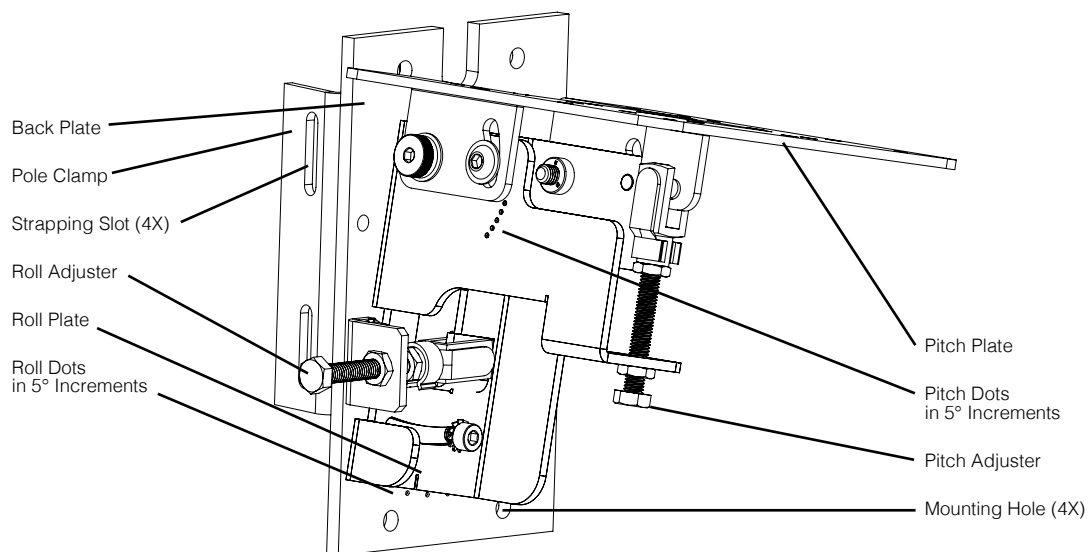
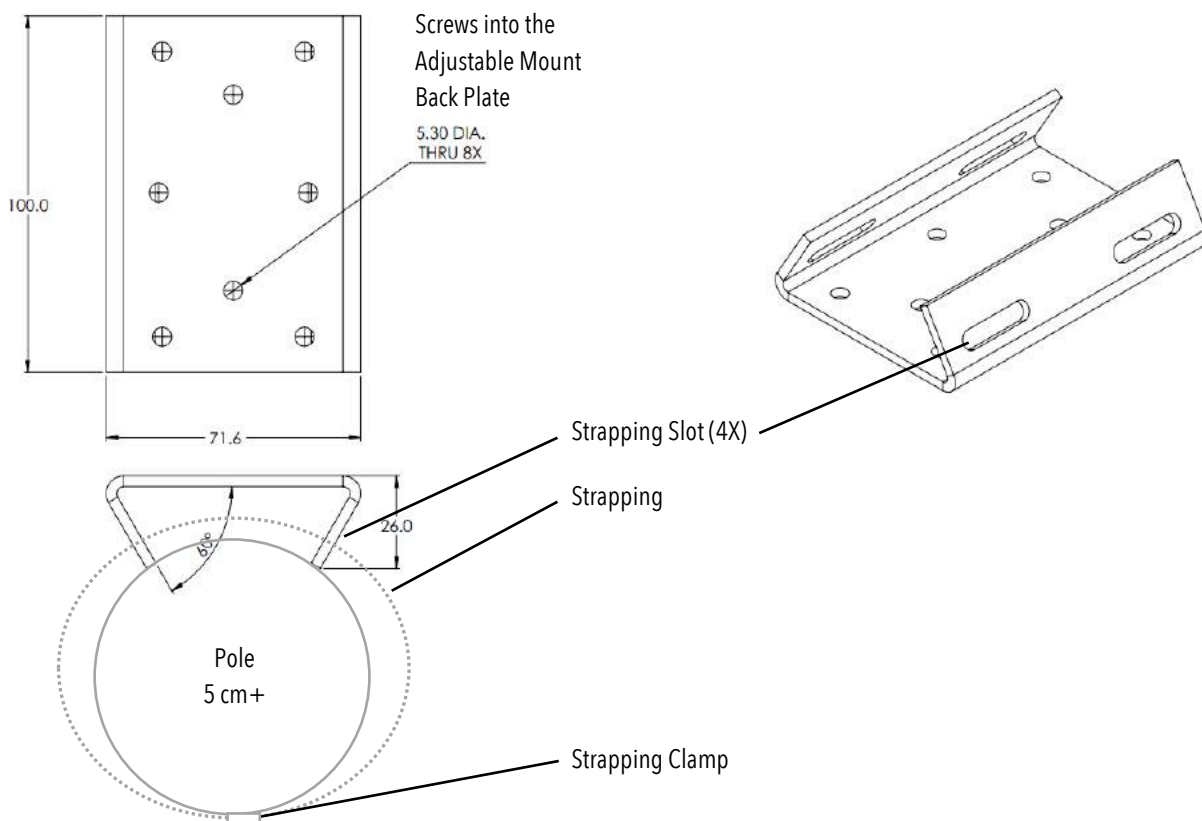
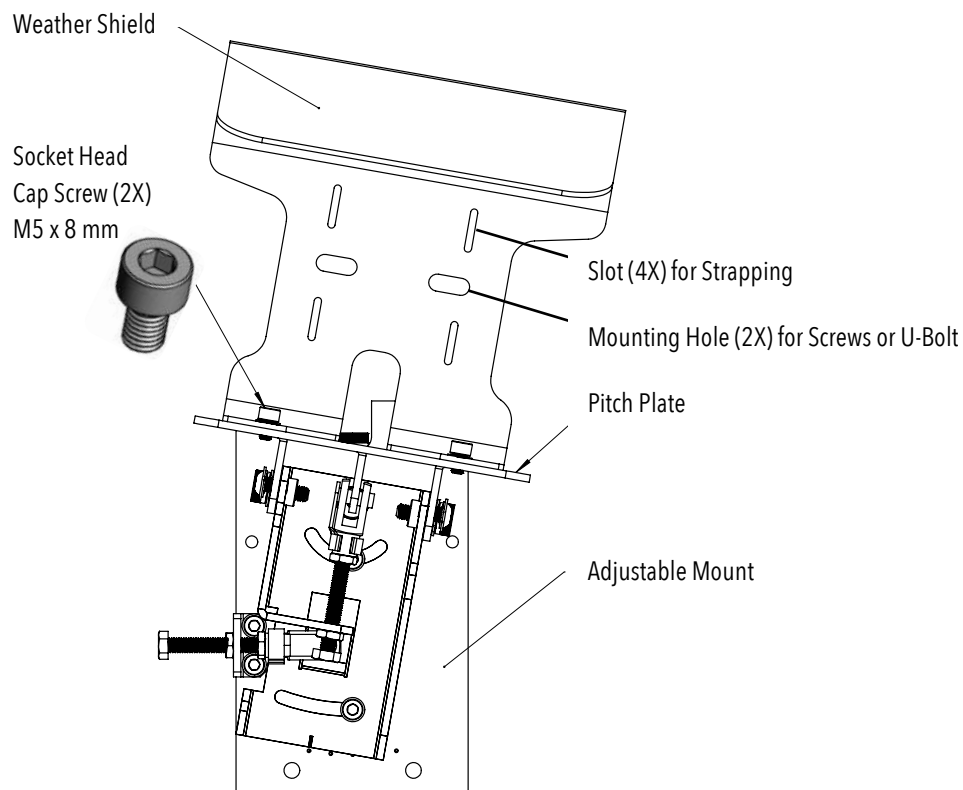

Figure 53. M8 Sensor Adjustable Mount Accessory
Figure 55. Adjustable Mount's Pole Clamp
Figure 57. Weather Shield Installation
The following procedures explain how to install the M8 sensor using these accessories to fit your needs. Refer to Figure 53 and Figure 57.
The Adjustable Mount (Figure 53) is pre-configured for pole mounting (Figure 55). The pole must be at least 5 cm (2 in) in diameter. Install as follows:
Mount the Adjustable Mount (Figure 53) to a flat surface such as a wall, as follows:
1. Unscrew and remove the pole clamp (Figure 55) from behind the Adjustable Mount's back plate.
If the installation environment is likely to receive heavy exposure to sun, heat, or precipitation, you may prefer to protect the M8 sensor by adding the optional Weather Shield accessory (Figure 57). This may be used with or without the Adjustable Mount.
The Weather Shield accessory can be fastened to a pole or flat surface *without* the Adjustable Mount by making use of the strapping slots and mounting holes (Figure 57).